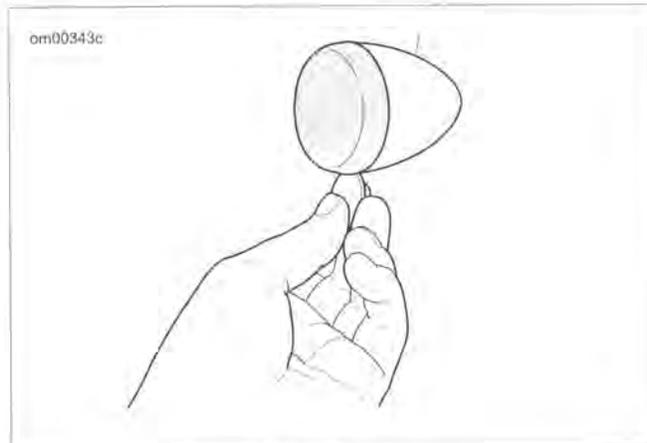

Figure 7-33. Remove Lens
1. See Figure 7-33. Insert a coin or the blade of a small screwdriver into the notch at the bottom of the lens cap. Carefully twist until the lens cap pops out of the lamp housing.